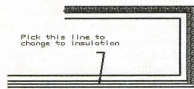

Figure 7
6. Draw your walls as before. Note that your lines are not automatically created with an insulation line. When your walls are finished, press [Alt] [C] to go to the **Change** menu. Pick the **LineType** option, and set it to **Insul**. With **Entity** active, pick the lines that will become the insulation lines, as indicated in Figure 7.